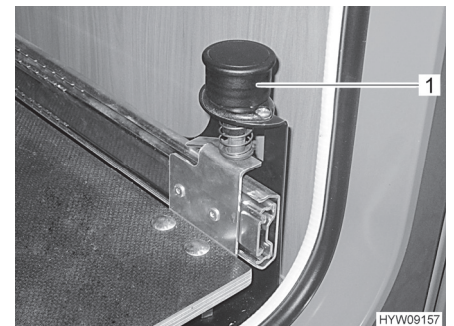

Fig. 119 Knob with locking device
- Pull the knob (Fig. 119,1) upwards. The gas bottle compartment pull-out is unlocked.